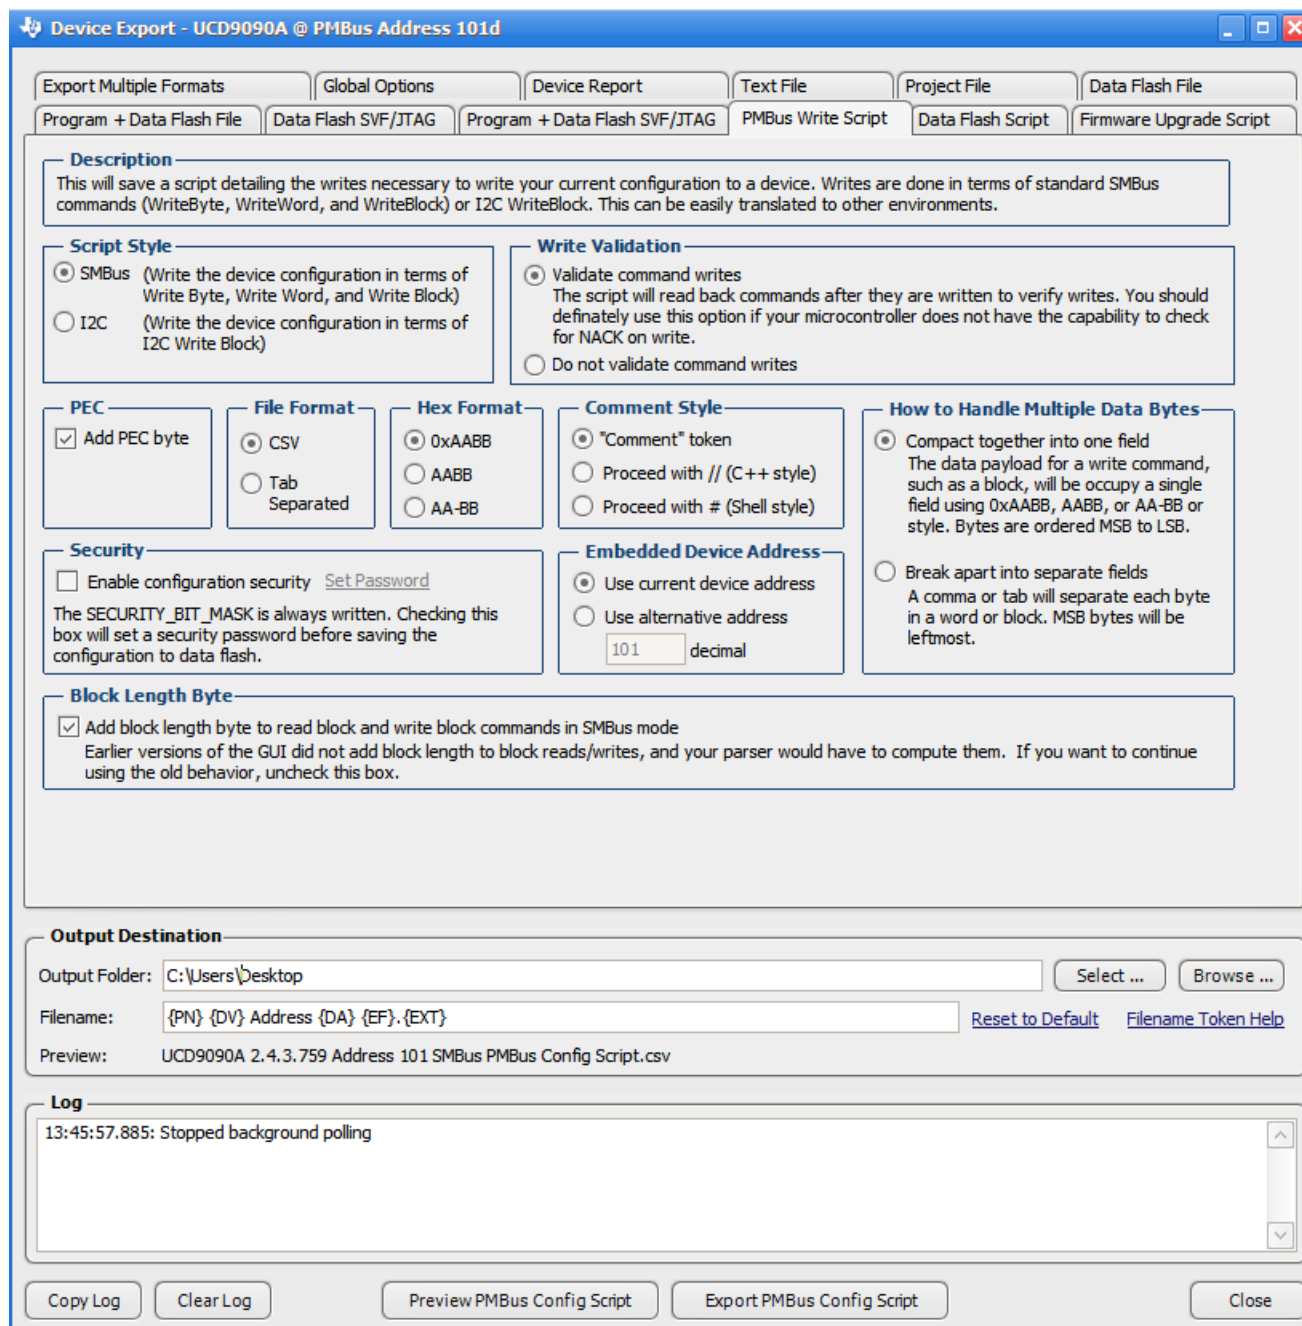

Figure 33. Fusion GUI PMBus Configuration Script Export Tool
2. The *Fusion GUI* (Figure 33) can create a PMBus or I²C command script file that can be used by the I²C master to configure the device.